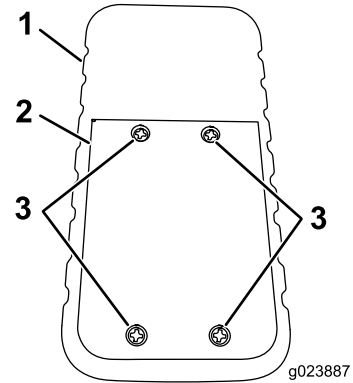

Figure 59
1. Loosen the 4 screws securing the battery cover (Figure 59).